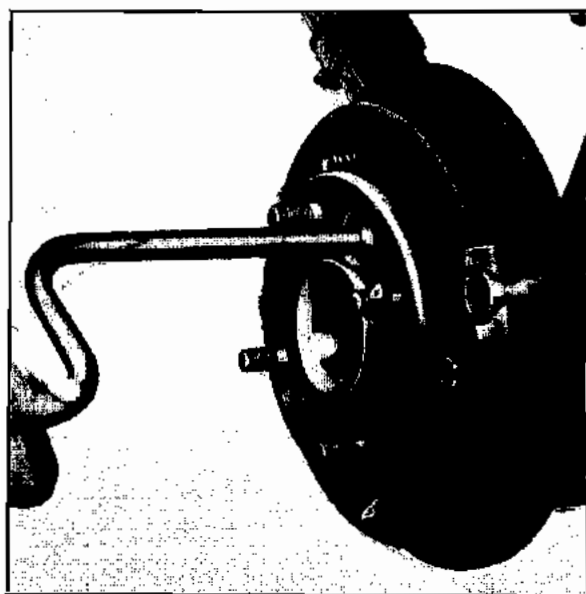

Fig. 7
3. Remove the four self-locking nuts which secure the axle shaft bearing retainer to the axle housing. These nuts are accessible through the holes in the axle shaft flange illustrated in Fig. 7.